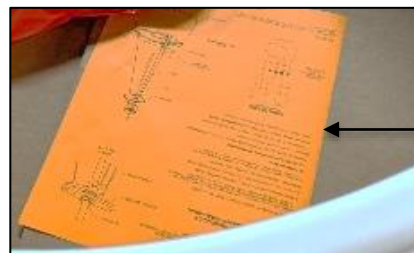

FIG.4 - INSTALLATION INSTRUCTIONS
3. INSTALLATION INSTRUCTIONS (shown in FIG. 4) - Please completely read the install instructions before starting installation.